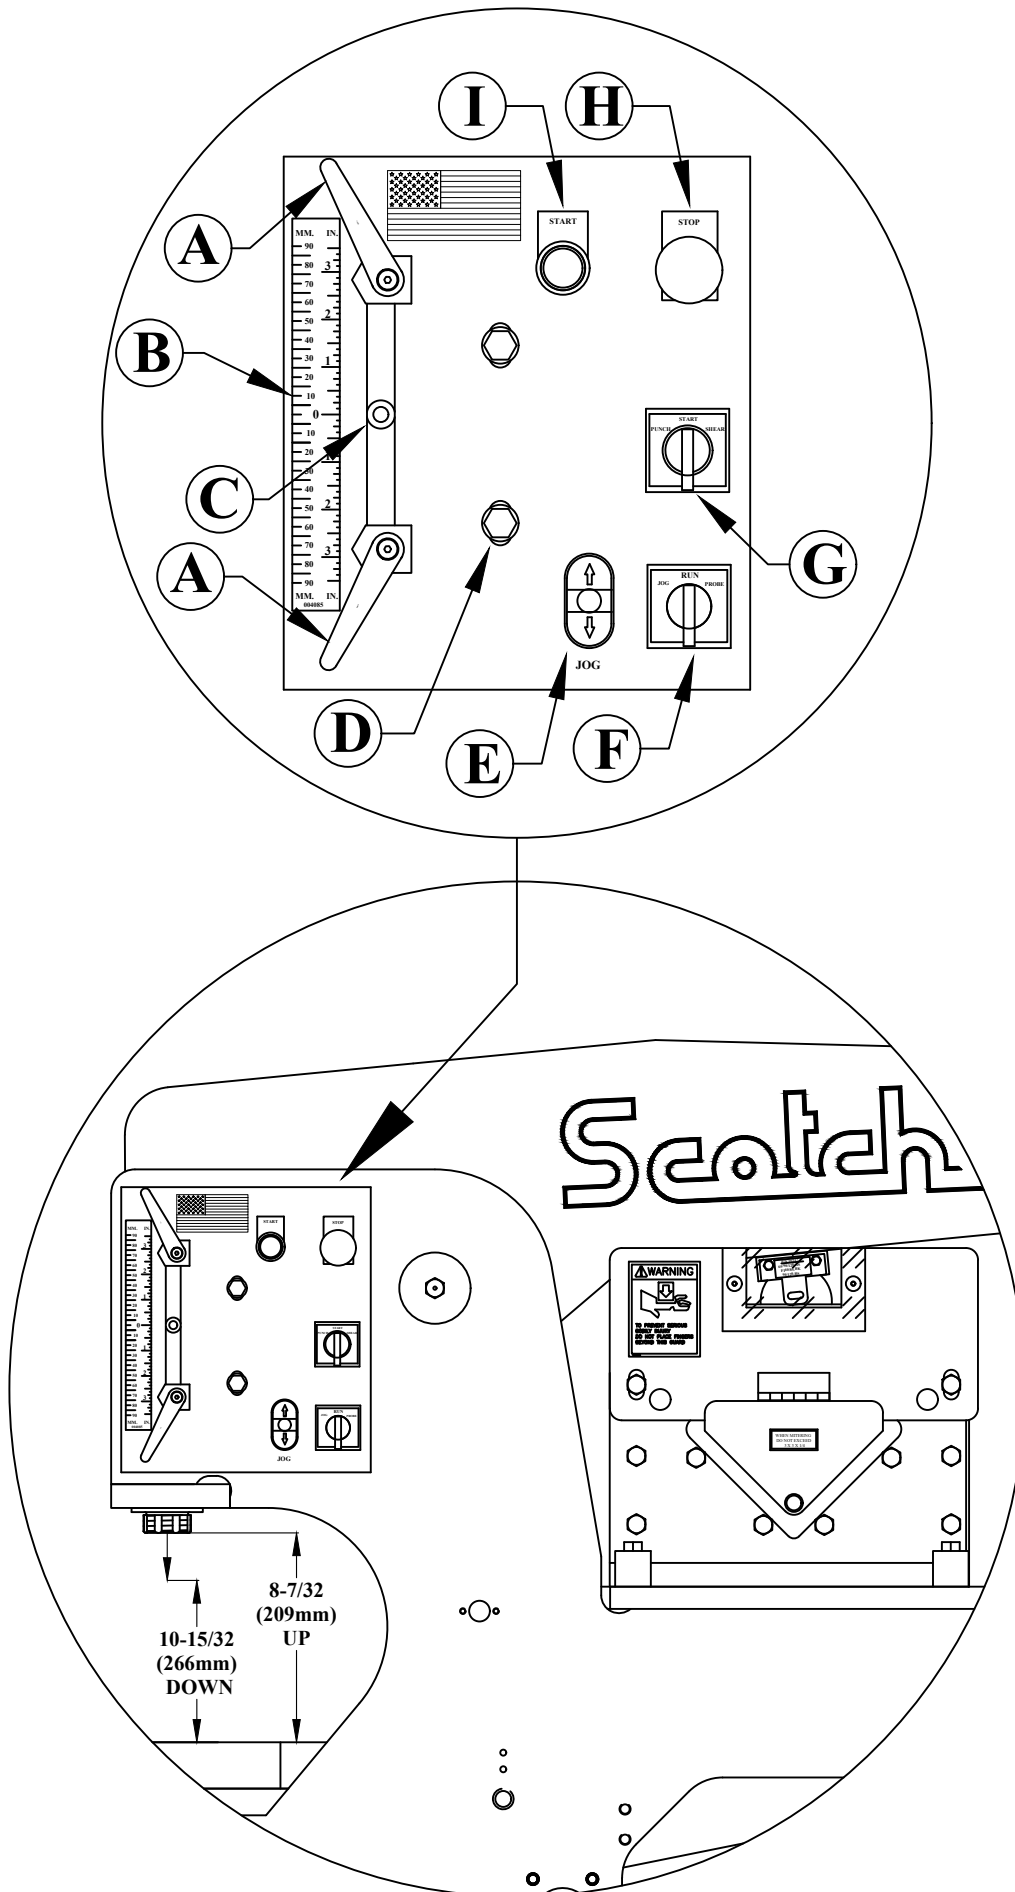

FIGURE 5
A check of the machine's stroke setting is made at the punch station; SEE FIGURE 5 ON THE FOLLOWING PAGE. Set the stroke control handles (A) out to their farthest position. Turn the selector switch (G) to the START position and power the machine. Then place this switch in the SHEAR position. Measure the distance from the top of the punch bolster to the bottom of the punch ram. The distance should be 10-15/32 inches (266mm). Turn the selector switch to the PUNCH position and measure the distance. The distance should be 8-7/32 inches (209mm). These dimensions are + or - 1/16 of an inch (3mm).
1. Loosen the two mounting plate screws (D) that hold the mounting plate to the machine. SEE FIGURE 5 ON THE FOLLOWING PAGE.